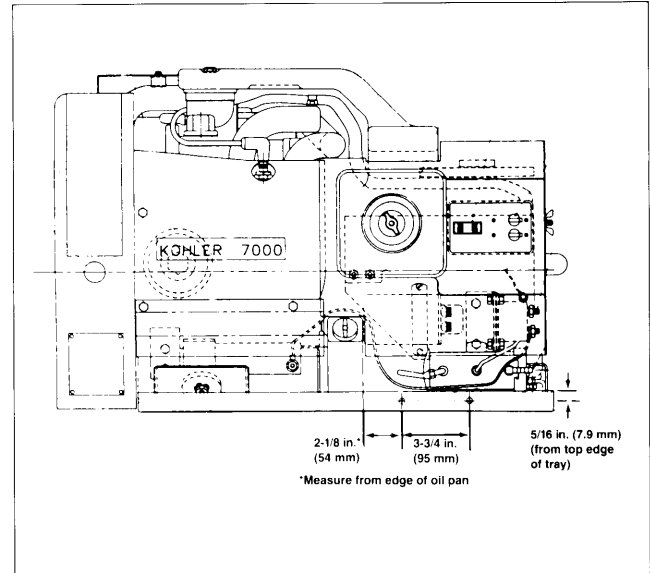

Figure 7. Fuel Valve Mounting Hole Position
- Drill two 9/32 in. (7.1 mm) holes in skid to mount fuel valve assembly. Holes should be drilled in positions illustrated in Figure 7.